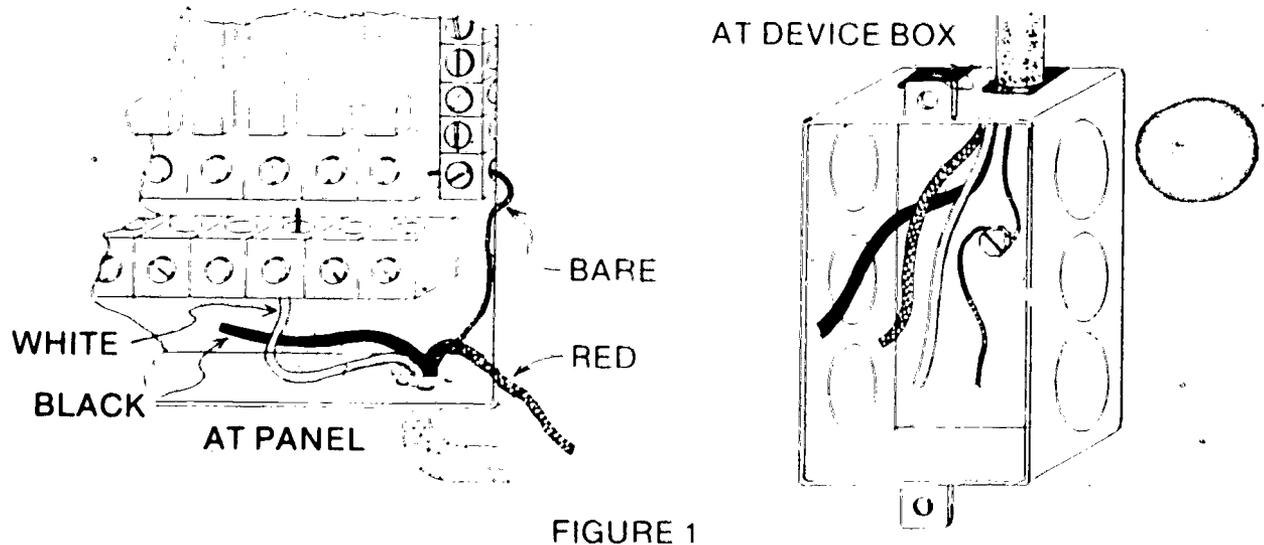

FIGURE 1
J. Connect neutral and equipment grounding conductors (Figure 1)